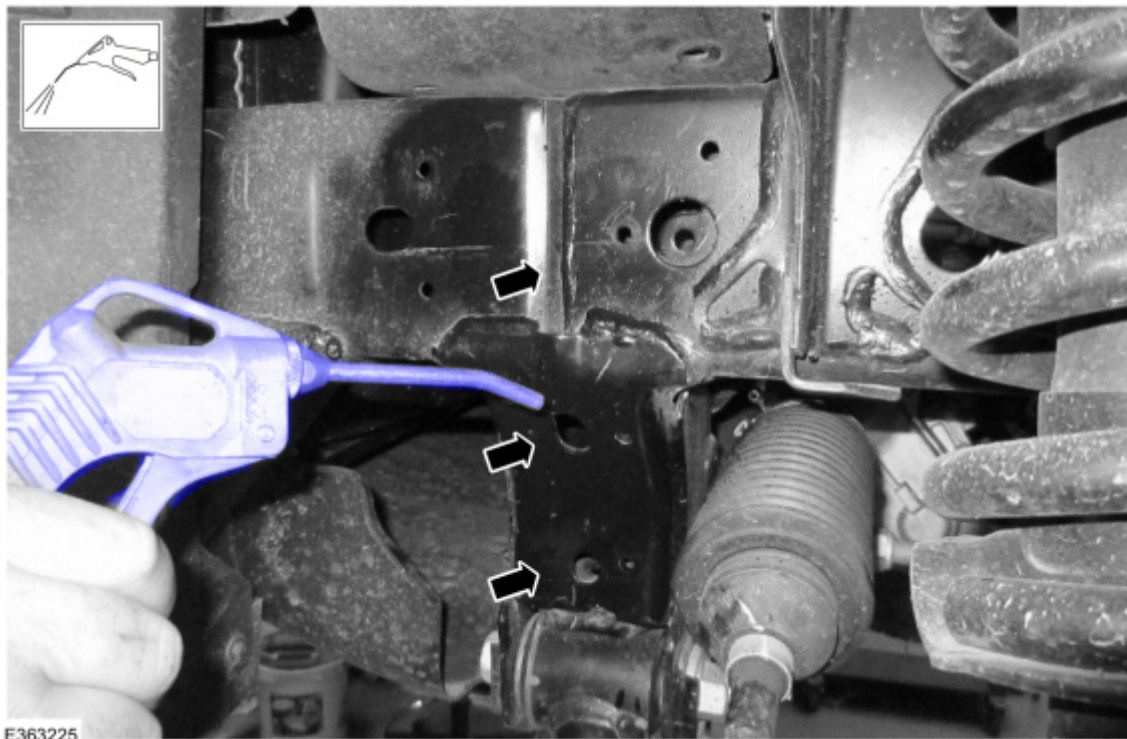

Figure 8
9. Using compressed air, remove all swarf from around the cross member and suspension pivot. (Figure 8)